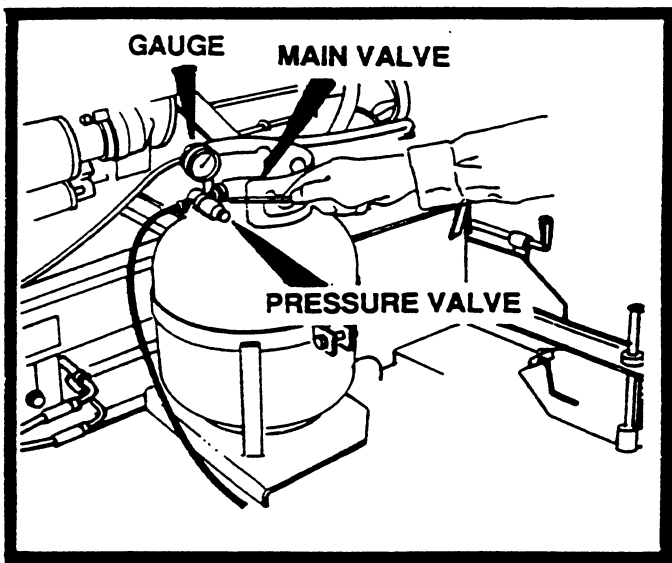

FIGURE 7
2. Turn main propane valve on and set regulator at 15 lbs. Refer to figure 7.